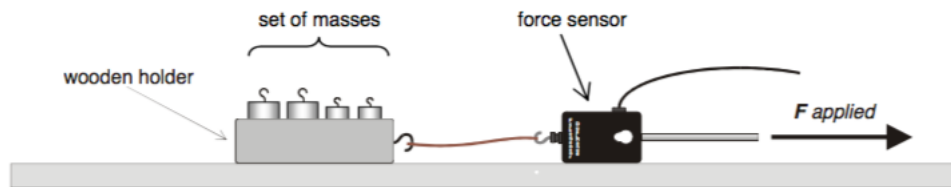

Figure 3: A wooden block + masses pulled with the force sensor
9. Gently pull the force sensor with a horizontal force F as shown in Figure 3. Increase F slowly and steadily until the wooden holder begins to slide. At this point, you may have to decrease F so that the holder maintains a uniform velocity.